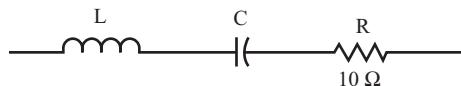

FIGURE 7.37
- 23** Use the circuit shown in Figure 7.37 for this problem. In this case, the resistor value is 10 ohms. However, the inductor and capacitor values are not given.
- 24** Use the circuit shown in Figure 7.37 for this problem. In this case, the resistor value is given as 10 ohms. However, the inductor and capacitor values are not given.